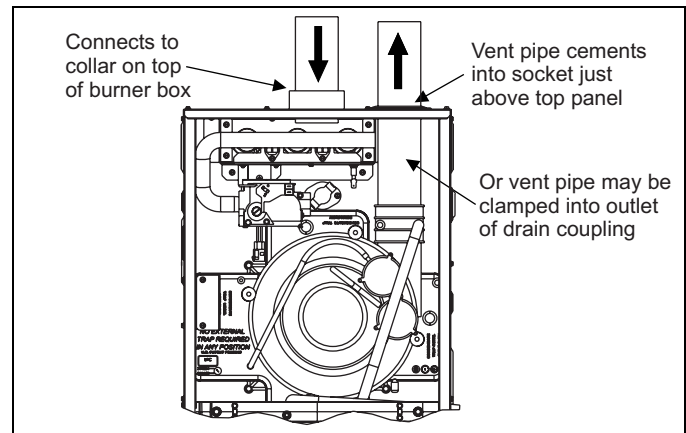

FIGURE 34: Direct Vent Air Intake Connection and Vent Connection
2. **AMBIENT COMBUSTION AIR:** Combustion air is supplied from the area surrounding the furnace through openings in the furnace casing. The combustion air and the vent pipes are not terminated in the same atmospheric zone. Refer to Figure 28 for vent terminations. Refer to "Ambient Combustion Air Supply" for proper installation. Refer to Figure 34.